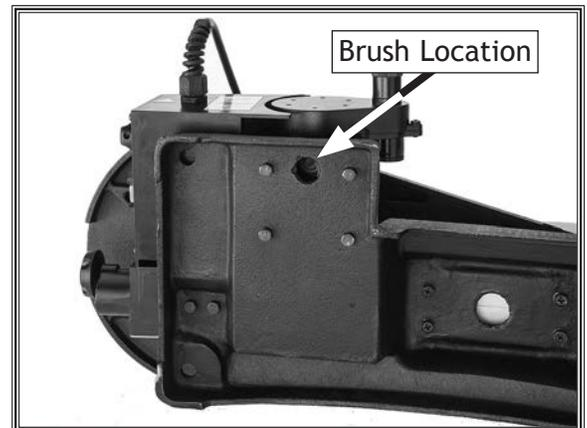

Figure 39. Lower motor brush location.
4. Remove lower brush cap and motor brush, accessing them through a hole in bottom of base (see **Figure 39**).